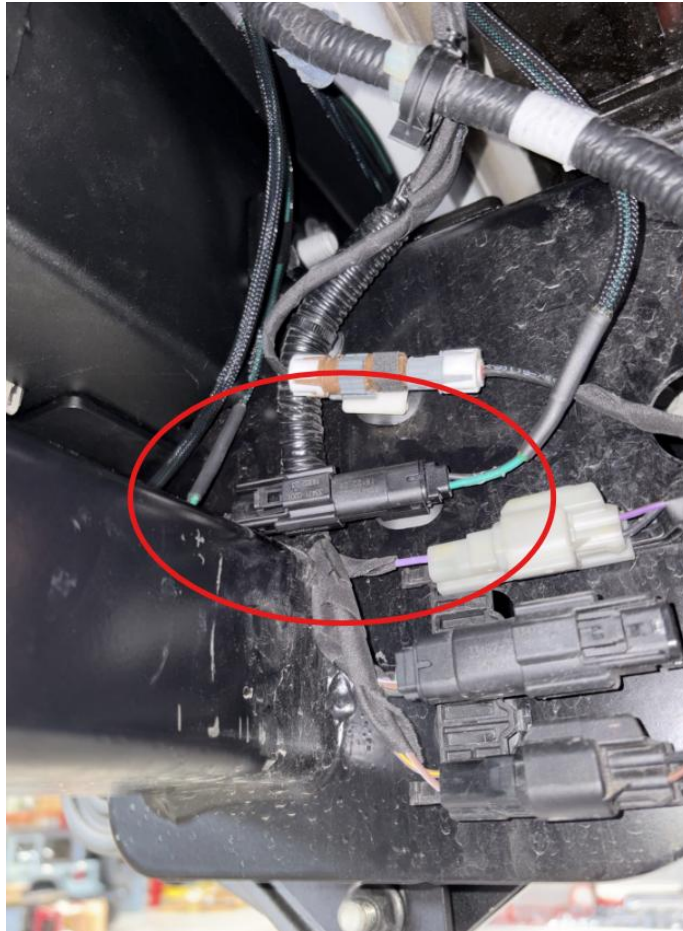

Figure 6
- a. Lay the 30302099AA rear aux light bumper harness across the center weldment. Make sure the two identical connectors are located near the wiring passthrough holes on both LH & RH sides of the center weldment (Fig 6). The remaining connector will tie into the 30302098AA rear aux light chassis harness in later steps.